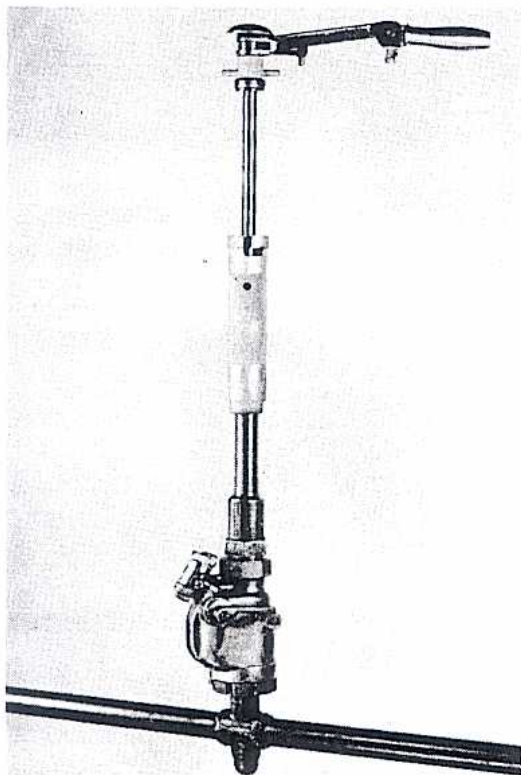

FIGURE 32
6. If using a control chamber place the drilling machine on the control chamber and tighten the body of the machine directly into the top of the control chamber. Be sure "O" ring is in place, lubricated and in good condition. FIGURE 32.